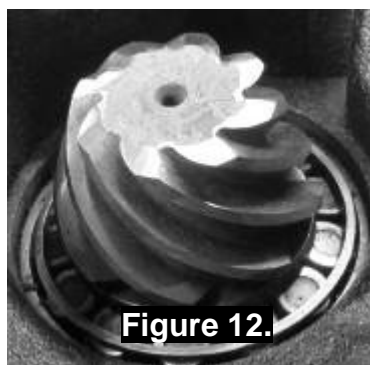

Figure 12.
- ☐ Check clearance again using a feeler gauge and remove more material if required. The modified pinion should look like figure 12..